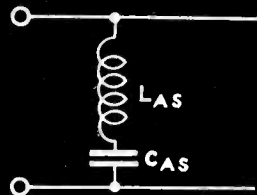

Fig. 3
- ④ For very high harmonic attenuation, replace  $C_A$  or  $C_C$  or both by series inductance and capacity, resonant at the harmonic, but presenting a capacitive reactance of  $X$  ohms at carrier frequency as shown in Fig. 3